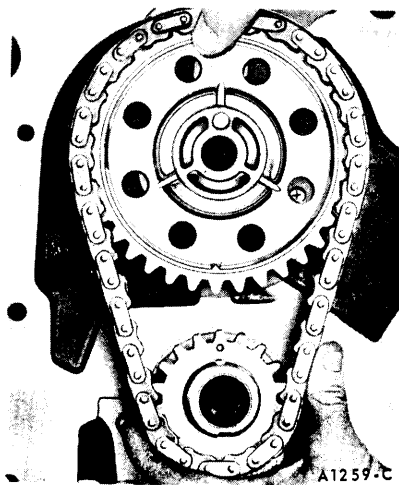

FIG. 31—Timing Chain Removal or Installation
18. Slide both sprockets and the timing chain forward, and remove the sprockets and timing chain as an assembly (Fig. 31).
shaft (Fig. 31). Be sure the timing marks on the sprockets are positioned as shown in Fig. 30.
3. Position the sprockets and timing chain on the camshaft and crankshaft (Fig. 31) with the timing marks on the sprockets aligned as shown in Fig. 30.